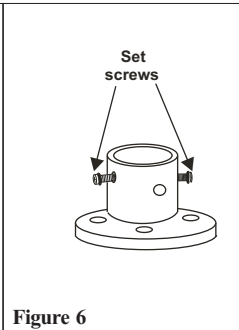

Figure 6
2. Loosen the two set screws from the motor assembly. (Figure 6)